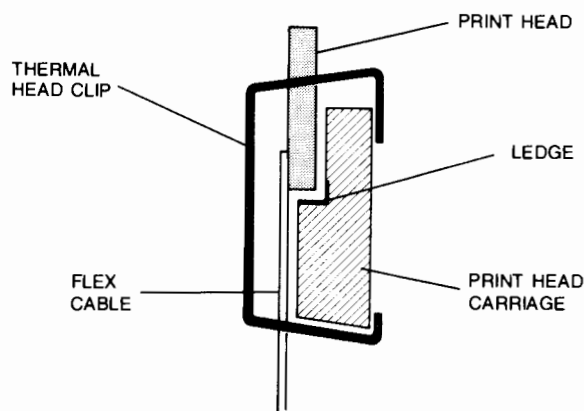

Figure 7-18. Ledge Inside Print Head Cartridge
4. Pull the print head up until you can see some of the flex cable through the square hole in the front of the print carriage. Then push the print head back down until it rests on the ledge which exists on the inside of the print head carriage. (See figure 7-18.)